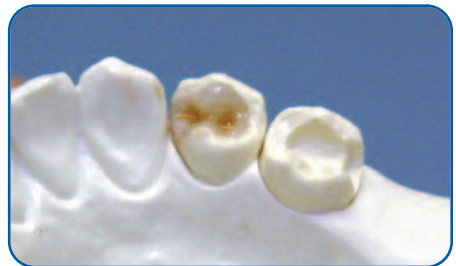

Fig. 8
12. Build-up is complete. (Fig. 8)